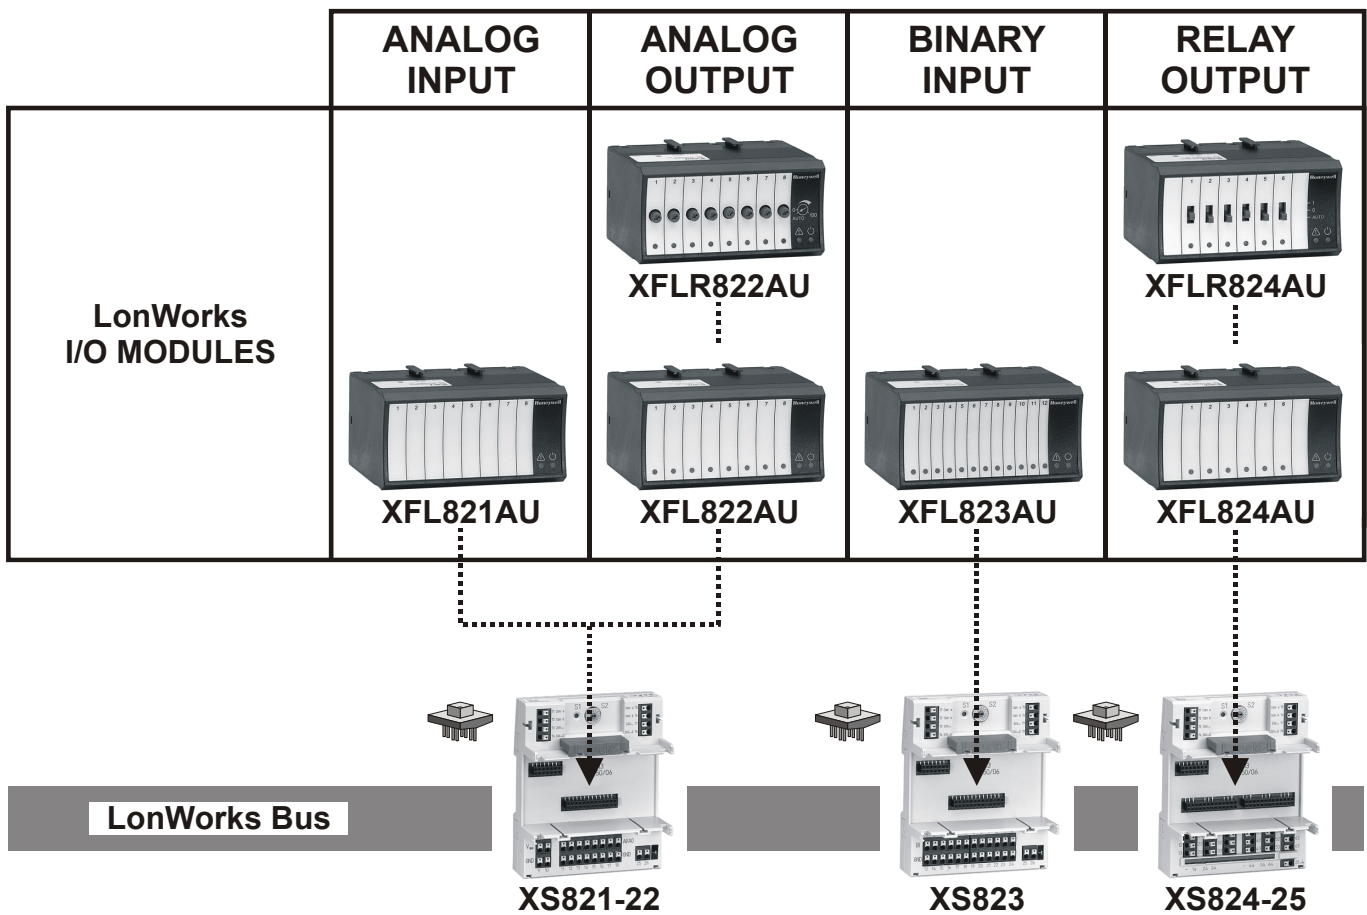
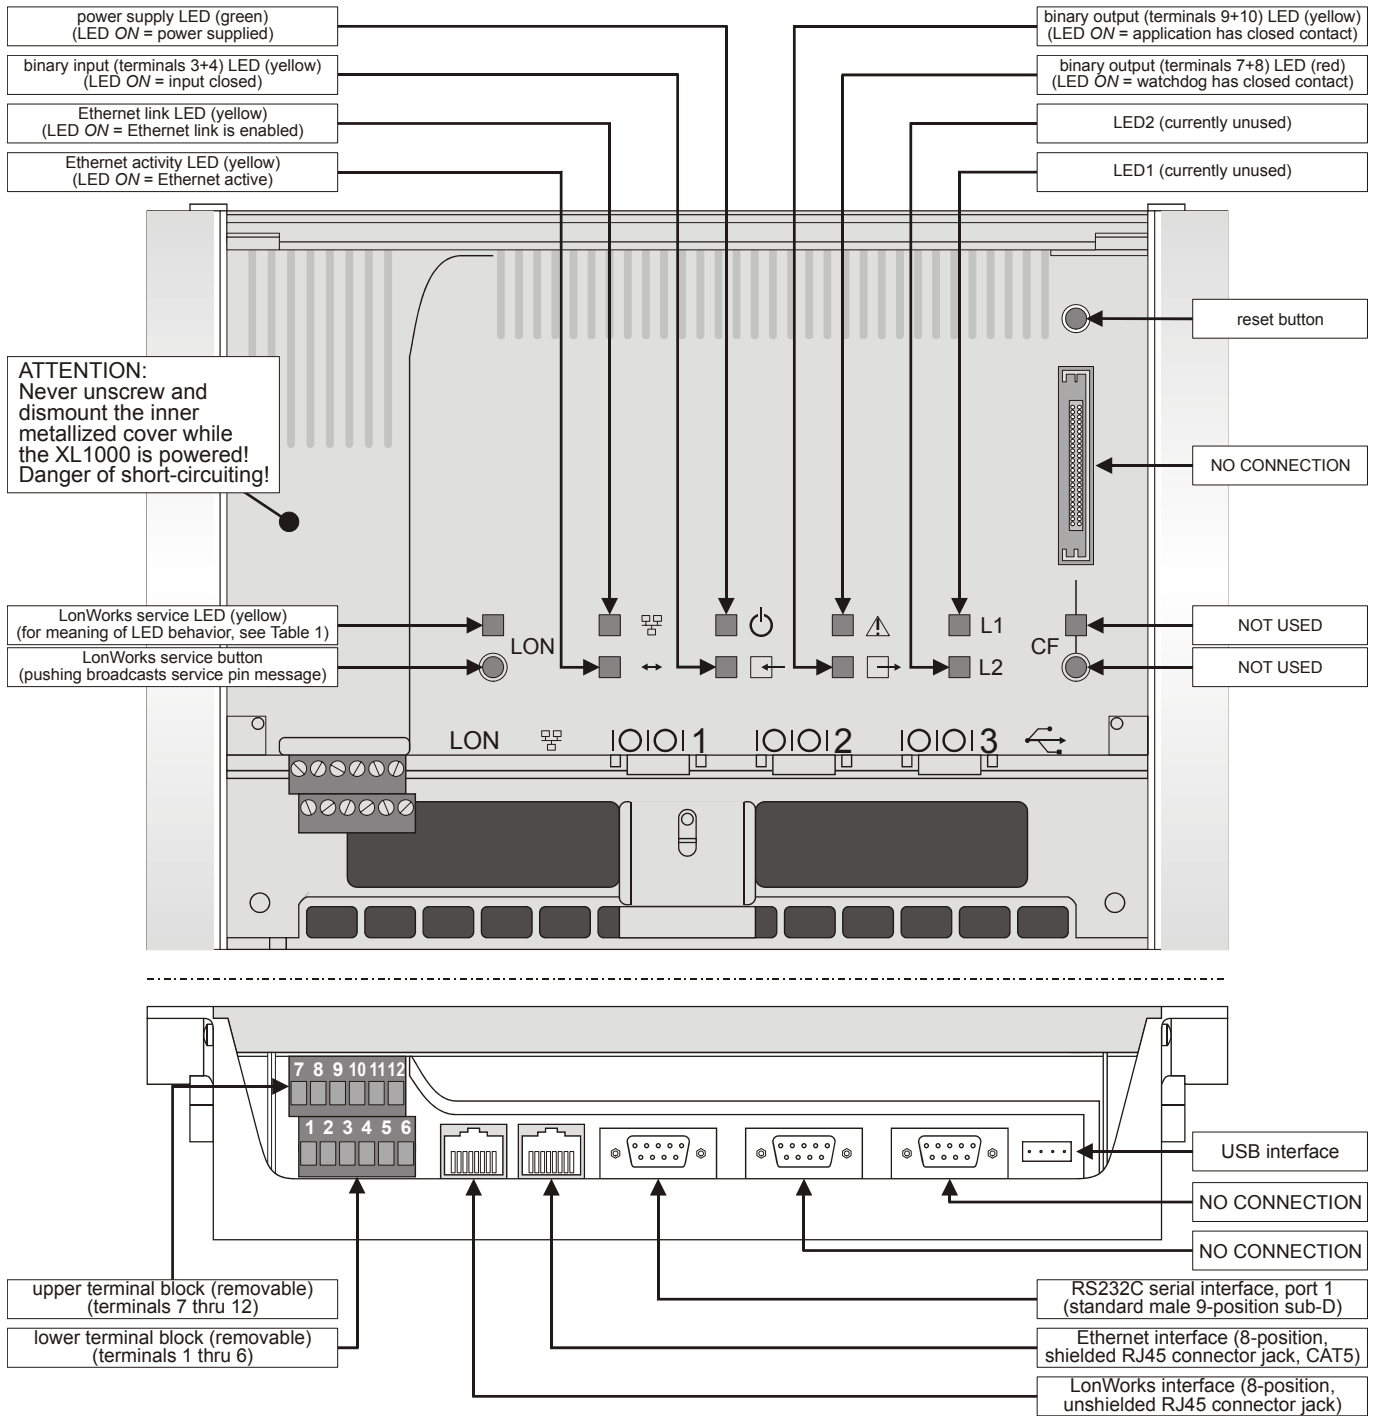

Fig. 2. Overview of I/O modules and terminal sockets
Fig. 3. Connections to the XL1000 Controller
1. Connect input/output device wiring, LONWORKS Bus transmission wiring, and 14507063 Power Cable to Controller per job drawings. Fig. 2 and Fig. 3 show typical controller wiring. Four Power Module models are available (see Table 2).
The XL1000 features two rows of removable terminal blocks (located at the front left-hand side; see Fig. 3) for the connection of cables to the two binary outputs and the binary input as well as for connecting LONWORKS and the power supply. A nearby sticker provides an overview of the terminal assignment (see Fig. 4).
- via terminals 5+6 and 11+12 of the terminal blocks (see Fig. 3); and/or
The XL1000 is equipped with a LONWORKS service LED and a LONWORKS service button, together marked "LON" (see Fig. 3). They are used for commissioning the XL1000 and for troubleshooting.
The XL1000 is equipped with two Ethernet LEDs (see Fig. 3).